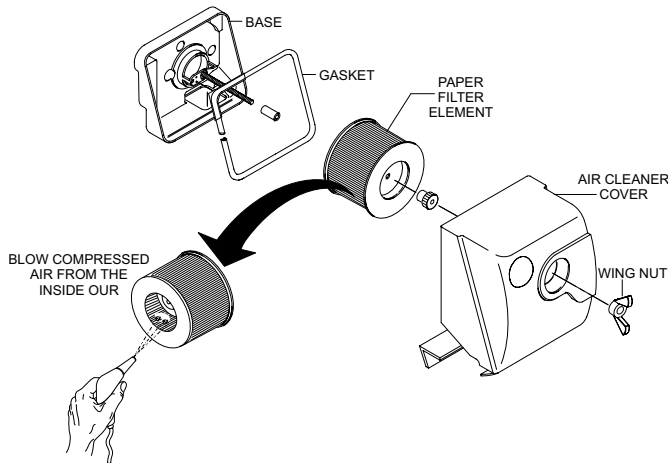

Figure 21. Engine Air Cleaner
This engine is equipped with a replaceable, high-density paper air cleaner element. See (Figure 21) for air cleaner components.
1. Remove the air cleaner cover and high-density paper air cleaner element (Figure 21)